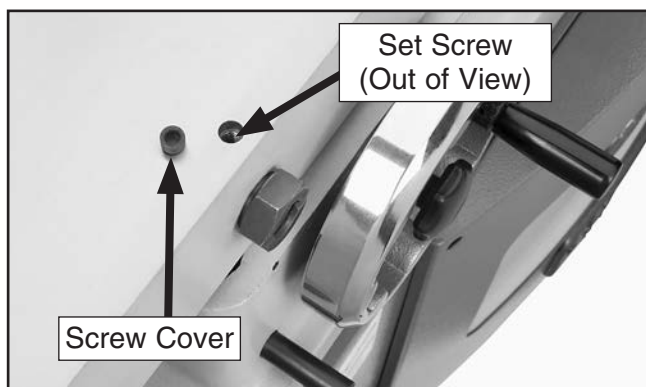

Figure 39. Screw cover and set screw location.
2. Remove the screw cover (see **Figure 39**) covering each set screw on the outfeed table.
3. Loosen each set screw (see **Figure 39**) two turns.